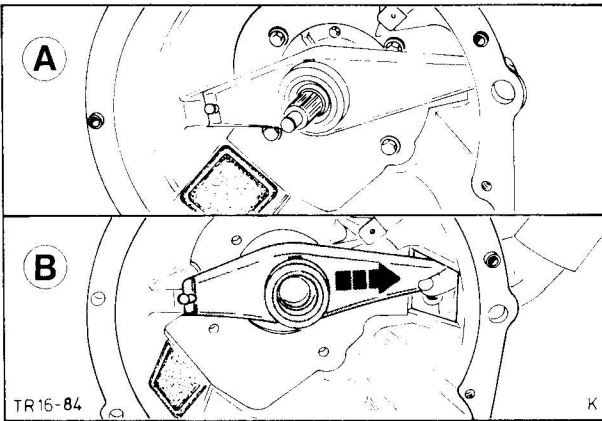

Fig. 19. Remove thrust bearing and release lever
3. Remove clutch thrust bearing with release lever, Fig. 19.